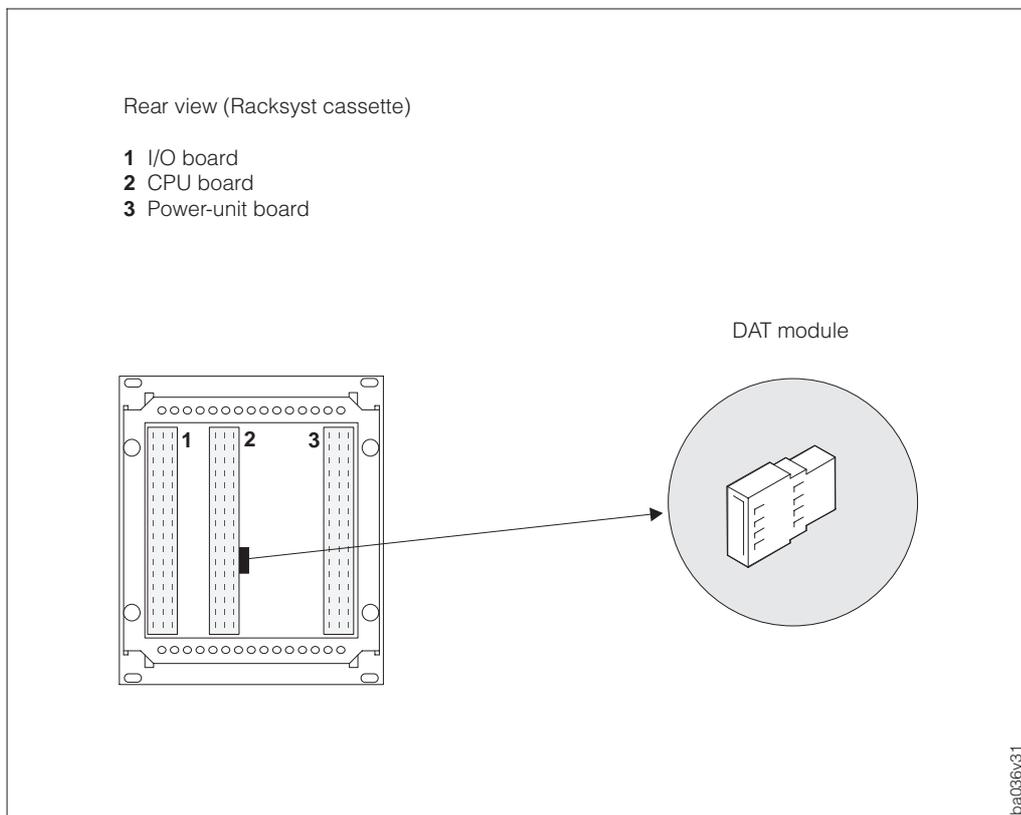

Fig. 19
3. Directly pull the blue DAT module off the CPU board, exchange and reinsert it (see Fig. 19):